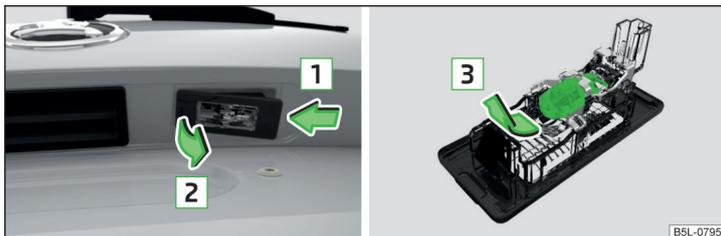

Fig. 203 Remove the number plate light/replace the bulb
- > Push in the lamp in the direction of the arrow **1** » Fig. 203.